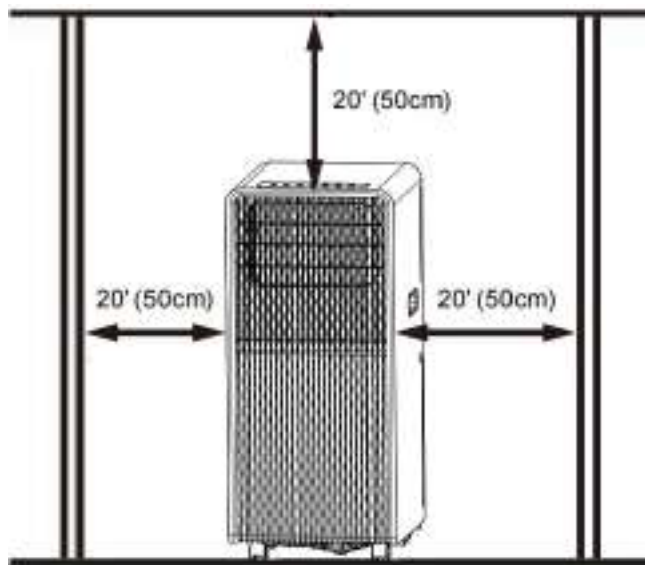

Fig. 3
- A moving air conditioner should be installed in a flat and empty place around. Do not block the air outlet, and the required distance around should be at least 50cm. (See Fig.3)
1. The exhaust air conditioner should be installed in a flat and empty place around. Do not block the air outlet, and the required distance around should be at least 50cm. (See Fig.3)